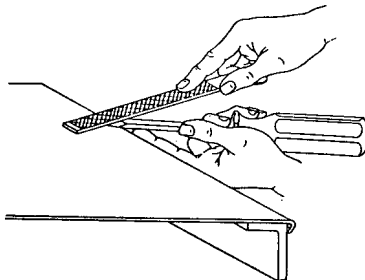

Figure 6. Restoring Thickness of Tip
- f. To restore the thickness of the tip, the entire broad face of the tip should be filed as shown in figure 6.